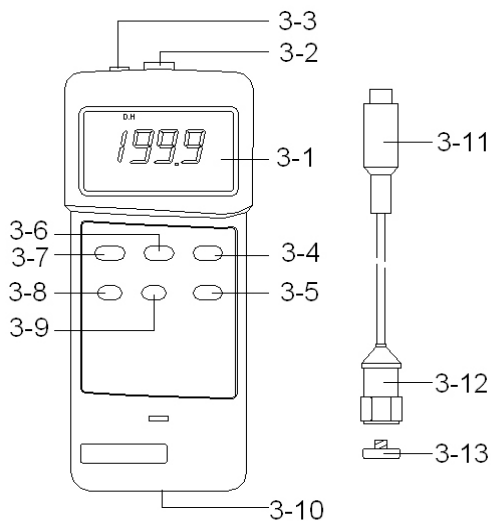
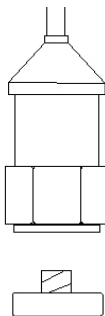
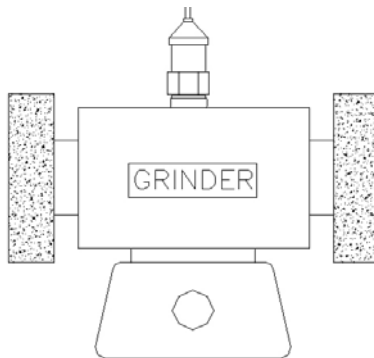

Fig. 1
Fig. 3
Fig. 4
- 1) Plug in the " Cable plug " ( 3-11, Fig. 1 ) to the " Input socket of meter " ( 3-2, Fig. 1 ).
- 2) a. For the Acceleration measurement, select the " ACC./VEL./DSP(P-P) switch " ( 3-5, Fig. 1 ) to the " ACC. " position.
b. For the Velocity measurement, select the " ACC./VEL./DSP(P-P) switch " ( 3-5, Fig. 1 ) to the " VEL. " position.
c. For the Displacement ( peak to peak ) measurement, select the " ACC./VEL./DSP(P-P) switch " ( 3-5, Fig. 1 ) to the " DSP(P-P) " position.
- 3) Select the " RMS/PEAK switch " ( 3-4, Fig. 1 ) to the " RMS " position.
- 4) Power on the meter by pushing the " Power button " ( 3-7, Fig. 1 ) once.
- 6) If the surface material of measuring article is the ferrous material, connect " Vibration sensor " ( 3-12, Fig. 1 ) with the " Magnetic base " ( 3-13 ), refer Fig. 3. Put the whole unit ( Vibration sensor & Magnetic base ) to the surface of measuring article, refer Fig. 4.
Before the measurement if select the " RMS/PEAK switch " ( 3-4, Fig. 1 ) to the " PEAK " position. The Acceleration and the Velocity measurement, the display will display the peak value. However the Displacement measurement will display the Peak to Peak value no matter the " RMS/PEAK switch " set to " RMS " or " PEAK " position.
During the measurement, push the " Data hold button " ( 3-6, Fig. 1 ) will hold the measured value & the LCD will indicate " D.H." symbol. Push the " Data hold button " again to release the data hold function.
- \* The DATA RECORD function displays the maximum, minimum and average readings. To start the DATA RECORD function, press the " RECORD Button " ( 3-8, Fig. 1 ) once. " REC " symbol will appear on the LCD display.
- (a) Push the " RECALL button " ( 3-9, Fig. 1 ) once, the " Max " symbol along with the maximum value will appear on the display.
During the measurement, push the " Record Button " ( 3-8, Fig. 1 ) to execute the memory record function.
The instrument features an RS232 output via 3.5 mm Terminal ( 3-3, Fig. 1 ).
- 2) Use the coining or " - " screw driver to open the " Battery Cover " ( 3-10, Fig. 1 ) away from the instrument and remove the battery.